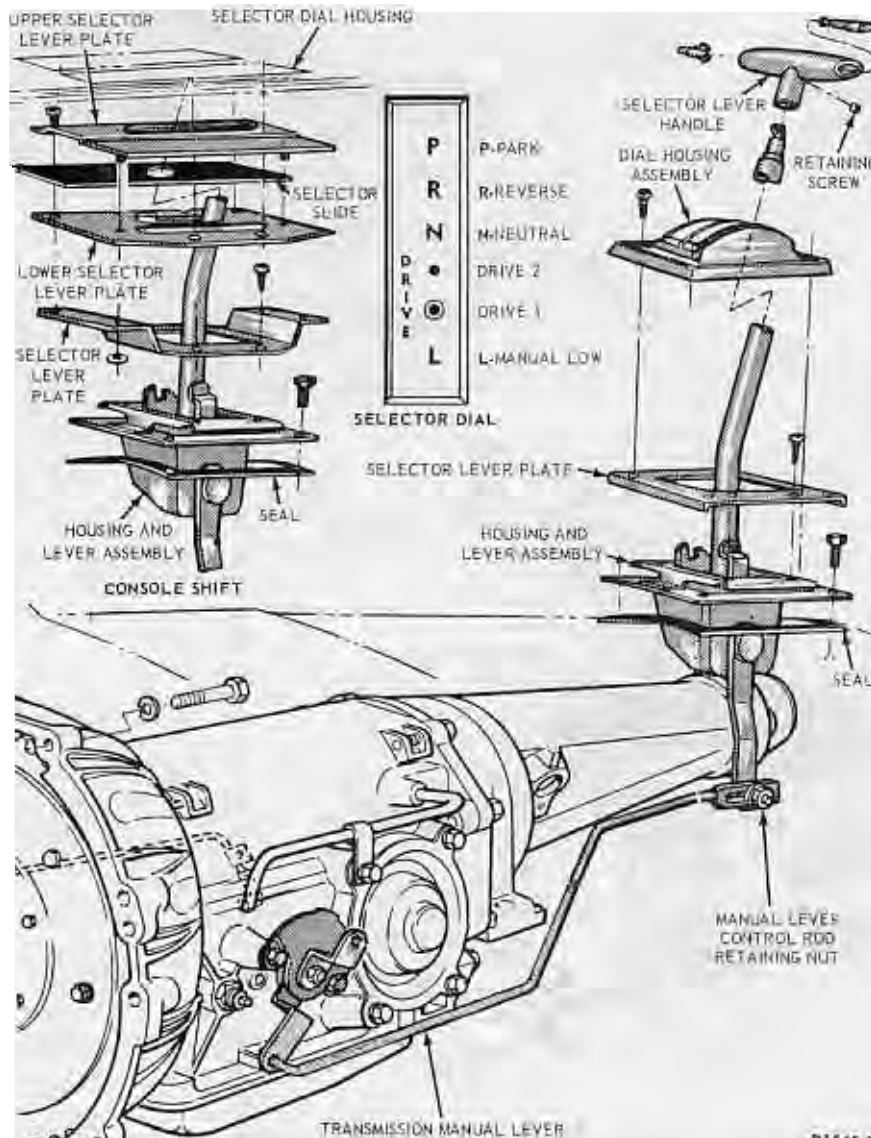

FIG. 18—Manual Linkage—Mustang
1. Position the transmission selector lever in D1 (large dot) position (Fig. 18).
1. Raise the car and remove the manual lever control rod attaching nut (Fig. 18).
13. Install the selector housing and lever assembly as shown in Figure 18. Torque the attaching bolts 8-12 ft-lbs.